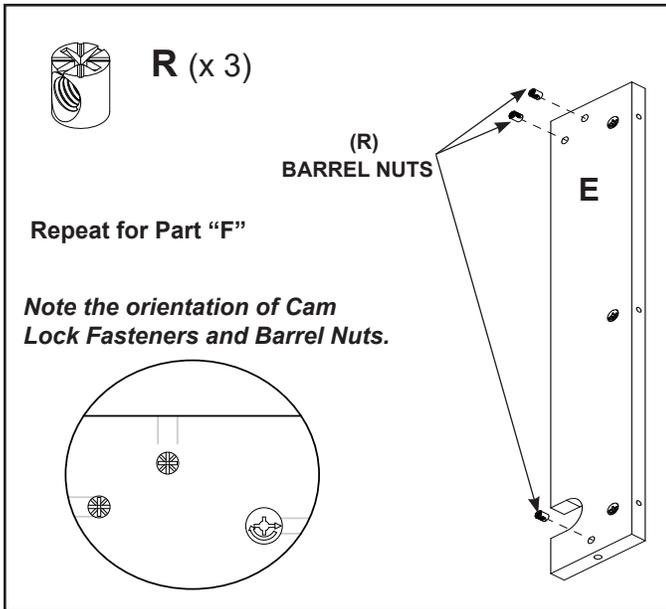

Figure 10
- Install three (3) Barrel Nuts (R) into part “E”. See Figure 10. Repeat for part “F”.